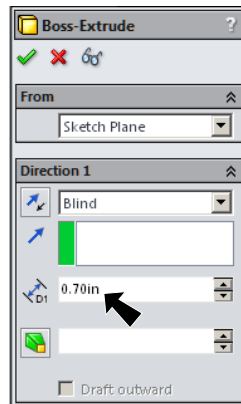

Fig. 3
Step 5. Click **Smart Dimension**  (S) on the Sketch toolbar.
Step 6. Dimension circle **diameter .125**, **Fig. 3**.
under Direction 1, **Fig. 3**